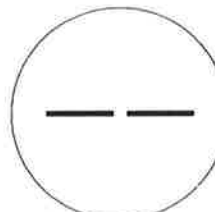

figure 15
- The display will indicate a steady pair of bars “- -” (figure 15). This lets the user know that the magnet has been properly placed over the GMI Logo.